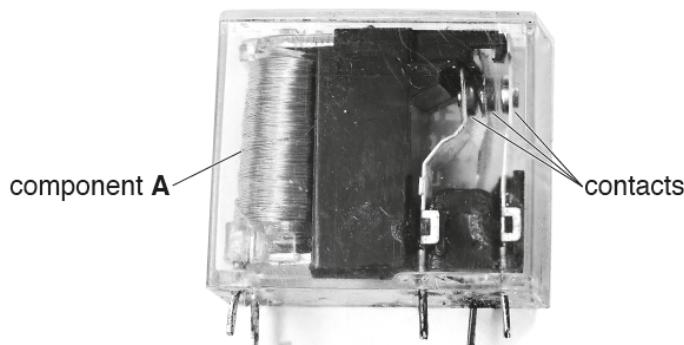

Fig. 2
- 2 (a) Fig. 2 shows a direct current (DC) electro-mechanical relay.
- (i) Name component A shown in Fig. 2.
- (iv) Give **two** reasons why the device shown in Fig. 2 would be used in a circuit.